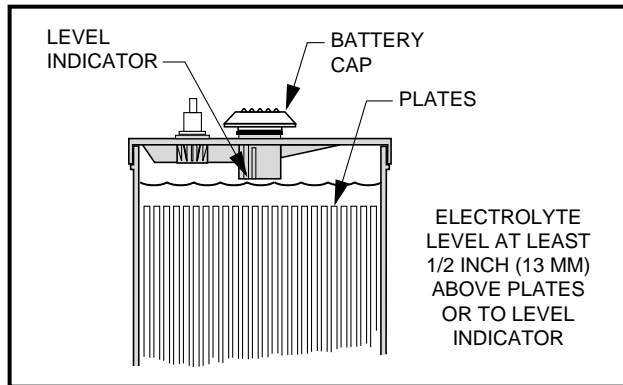

Figure 14 Battery Electrolyte Level
2. The electrolyte level in the batteries should be checked weekly (**see Figure 14, Page 27 for proper level**). Add water only after charging unless the electrolyte level is below the top of the plates. In this case, add just enough water to cover the plates, charge and then check the level again. Never charge batteries if plates are exposed above electrolyte level. For best battery life, add only distilled water. **See following NOTE.**